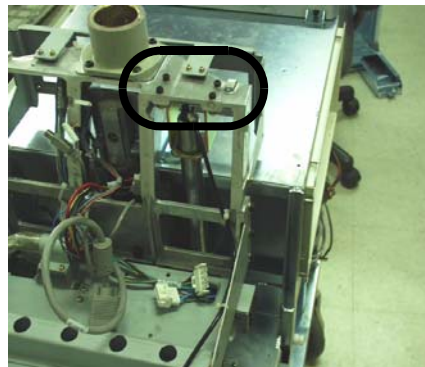

Figure 8-106 Unscrew 4 hexagon screws
- 4.) Unscrew four (4) hexagon screws (7-10). Refer to Figure 8-106 on page 8-57 .